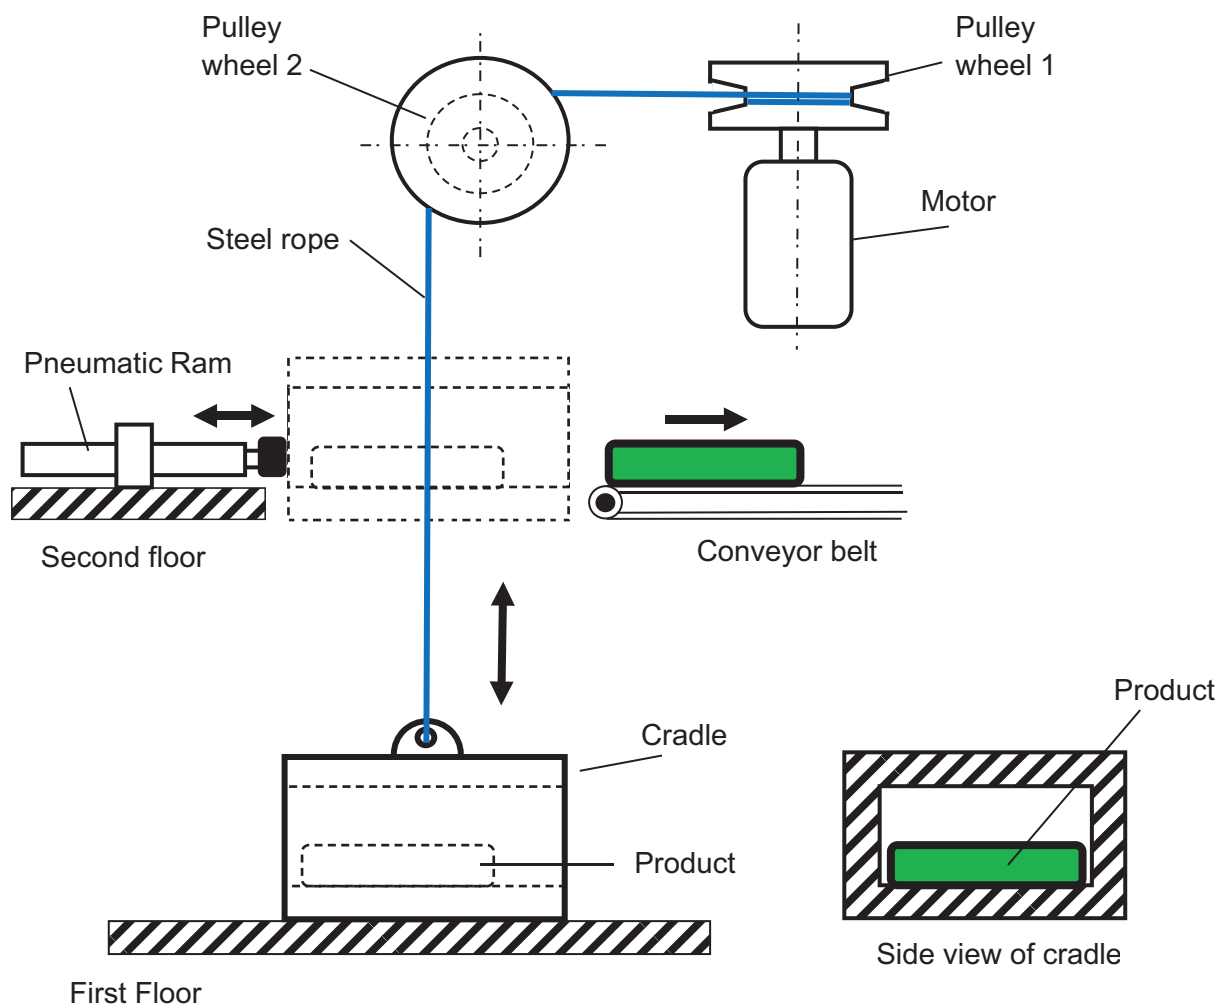

Fig. 8
- (e) A proposed model for a hoist system is shown in **Fig. 8**. The hoist is to lift a product from the first floor to the second floor. The hoist system incorporates a cradle, motor, two pulley wheels and a pneumatic ram. A side view of the cradle with a product inside it is shown. The hoist is controlled by a PIC microcontroller contained within the control panel shown in **Fig. 9**.